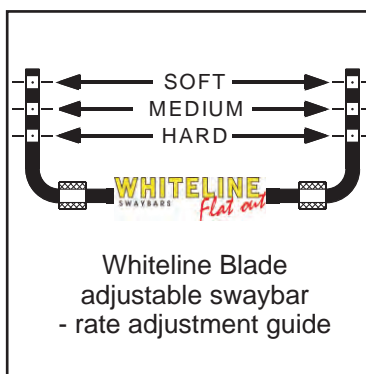
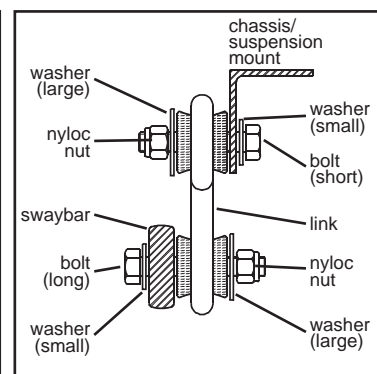

Figure 1.
Figure 2.
6. Using new bolts, washers and links, connect the swaybar to chassis bracket, as shown in photos 1, 2 & 3 and figure 2. Refer to figure 1 for swaybar adjustment guide.